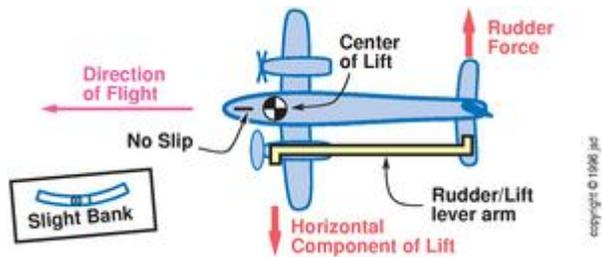

Figure 17.4: Engine Out — Correct Compensation
At this point, you could either (i) sit there and be a spectator, as shown in figure 17.3, or (ii) press on the left rudder pedal to center the slip string, as shown in figure 17.4. From the point of view of directional control, your choice doesn't matter very much. That is, in case (i) the airflow strikes the whole airplane (including the rudder) at a nonzero angle, while in case (ii) the airflow strikes the airplane at a zero angle, with the rudder deflected. In either case, the amount of tail force produced is approximately the same. The most important difference is that the airplane will climb better in case (ii), because the airflow will be aligned with the fuselage.
What is perhaps more surprising is that even in case (ii), if you keep the wings level the plane will make a MV-turn toward the dead engine (toward the right in this case). It will not turn as rapidly as in case (i), but it will turn nonetheless. The reason is that the rudder force, in addition to creating a torque, is creating an unbalanced force. This force is changing the direction of motion of the overall airplane. A possible (but non-optimal) way to stop this turn would be to apply even more pressure on the left rudder pedal, which would create a wings-level non-turning slip, as will be discussed below in conjunction with figure 17.5. For now, though, let's consider the correct strategy, which is to keep the slip string centered and apply a *bank* (to the left, in this case) to stop the turn. This is shown in figure 17.4. This uses a leftward component of lift⁴ paired with the rightward rudder force. Once again we have a pair of forces with a lever arm between them, i.e. a pure torque. This lift/rudder pair cancels the thrust/drag pair discussed above.
To maintain zero slip, you will need to bank the plane very slightly toward the working engine. The mnemonic is: *raise the dead*. This also implies that the inclinometer ball will be slightly displaced toward the working engine. This correct procedure (figure 17.4) requires slightly *more* aileron and slightly *less* rudder than you would need for wings-level, ball-centered, non-turning, uncoordinated flight (figure 17.5).
2. Suppose you push a little harder on the rudder pedal, establishing a slip toward the dead engine. The ball is centered, the wings are level, and the rate of turn is zero. (Any two of those things implies the third, regardless of engine status.) The forces are in balance because there is enough uncoordinated airflow over the fuselage to create a sideways force that balances the rudder force. The slip string is offset to the left, indicating that you are applying too much left rudder. In this situation, as shown in figure 17.5, you are using the fuselage as an airfoil. The problem is that the fuselage has a really poor lift-to-drag ratio. The sideways fuselage lift force is accompanied by a huge drag force, which steals energy from you. It would be much better to use the wings, as previously discussed in conjunction with figure 17.4.